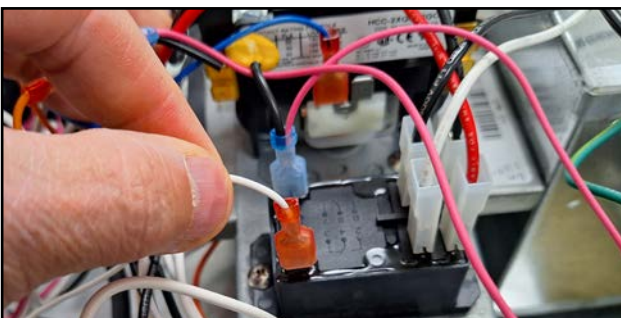

Fig.144
41. Connect the white wire to the left side coil of the fan relay. (Fig.144)